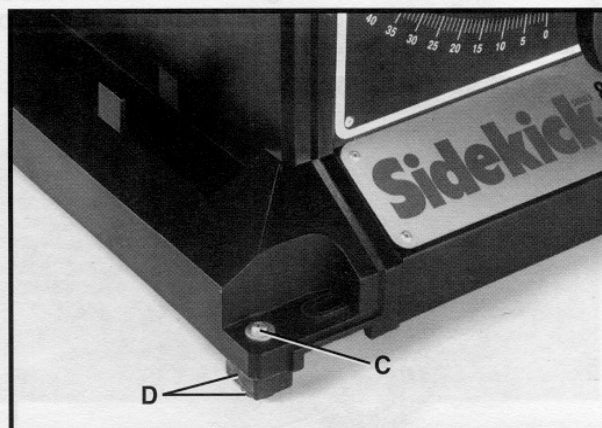

Fig. 7A
3. Loosen hardware (C) Fig. 7A and remove riser block and rubber foot (D) from each corner of the machine. **NOTE:** Do not discard hardware as it can be used again to remount the riser blocks and rubber feet if necessary.